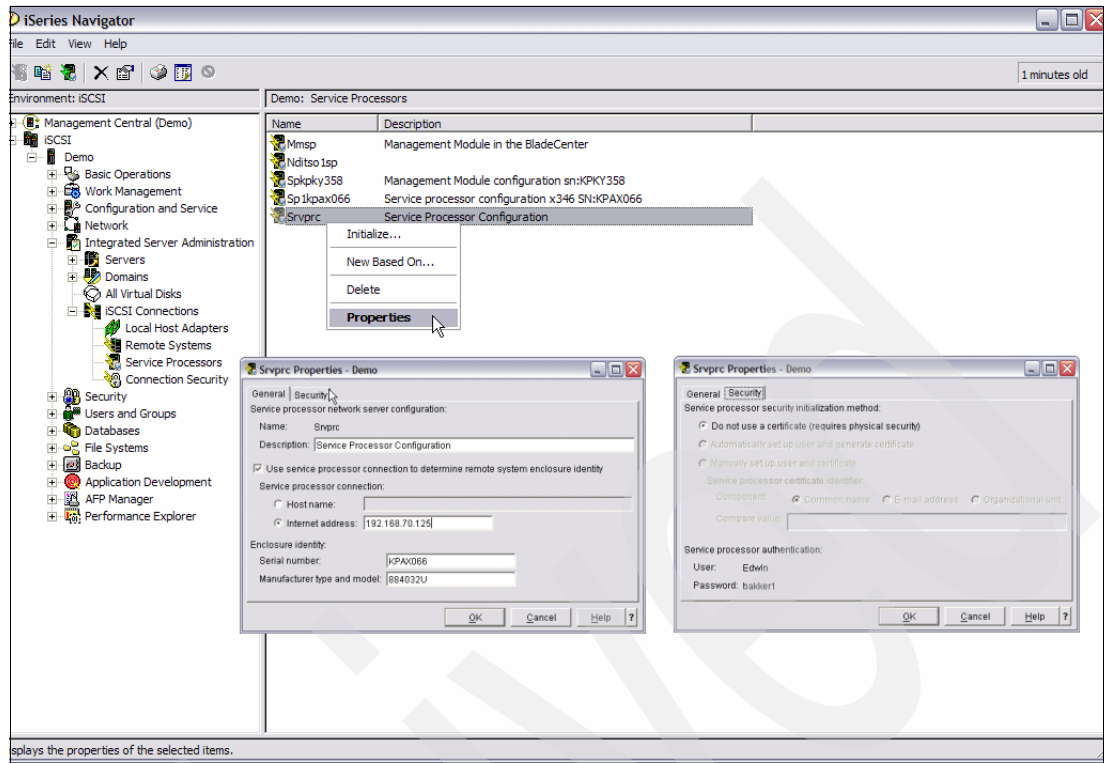

Figure 6-32 Properties Service Processor Configuration
- b. Click **Service Processors** and right-click **Service processor configuration** at the right pane, which you want to display or change from and select **Properties** (See Figure 6-32 on page 180).